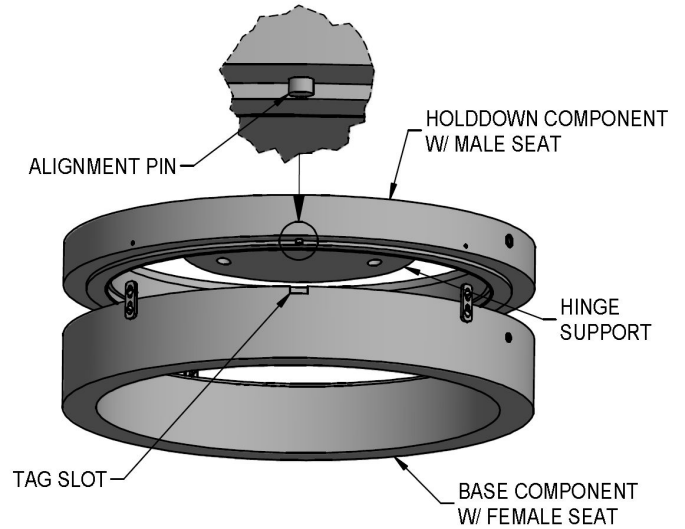
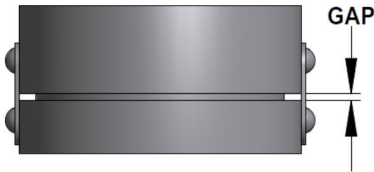

Figure 5 – Alignment pin fitting in tag slot. (ATLAS sizes 14” and larger”)
Figure 7 - Gap Inspection
WARNING: For ATLAS sizes 14” and larger, ensure that the alignment pin in the holddown fits into the tag slot of base (see Figure 5) and check the gap (see Figure 7). Fragmentation or leaking can occur if this feature is not aligned properly.
- Check gap between base and holddown. The gap must be the same size on all sides of the assembly. This can be assured by measuring the distance between the holddown and base at various places around the circumference of the assembly. Adjust pre-assembly screws if necessary to provide an even gap (See Figure 7).